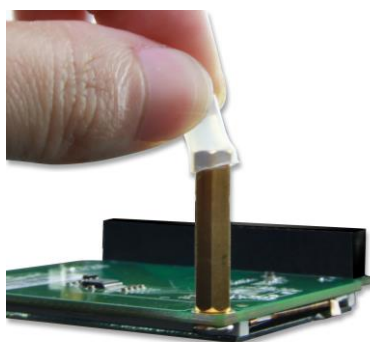

Figure 1-3 Install the footstand
2. Cover the two copper pillars of LT24 with two silicon footstands, as shown in Figure 1-3. This procedure can be skipped if the LT24 is assembled with DE0-Nano.